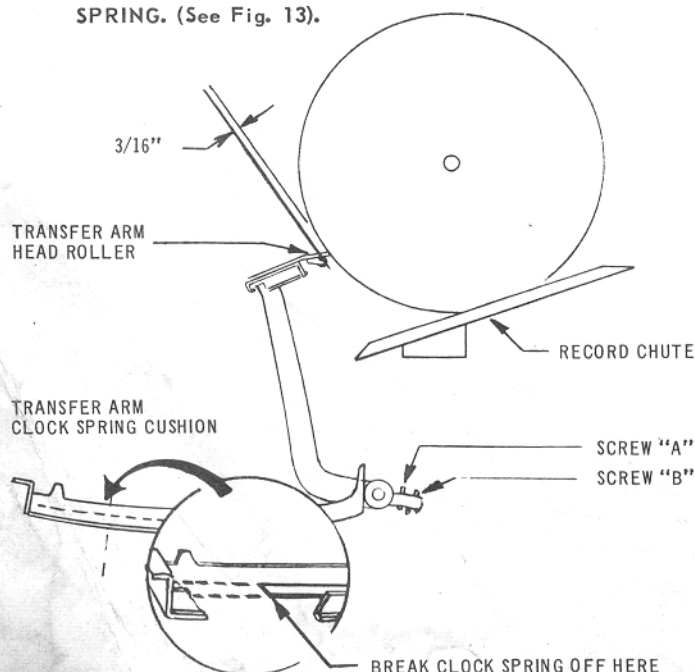

FIGURE 9 TRANSFER ARM ADJUSTMENT AND INSTALLATION OF SPRING
- A. Turn fly-wheel counter clockwise (See Section IV, paragraph F) until the transfer arm ((Fig. 9) is in a raised position, remove the old retaining clip, both old levers and the old leaf spring.
A. Mounted to the bottom Seeburg casting that cradles the "Transfer Arm" when in a "down" position (rear of machine) there is a heavy clock spring finger (Fig. 9) Break this off as shown (about 1" to 1-1/4" from the end). This is to prevent the set screw in the new "Transfer Arm Head" to depress same far enough to drag on the framework.